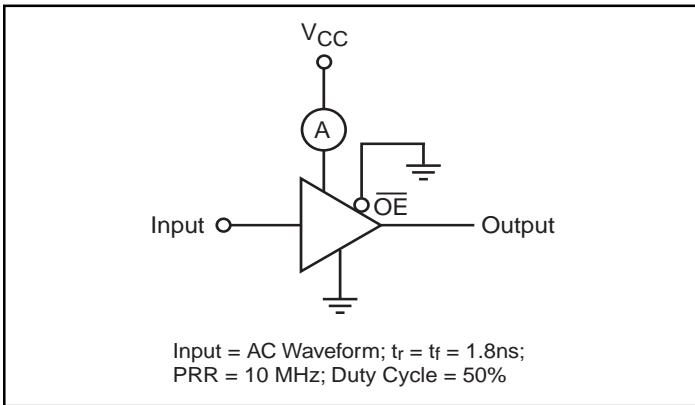

Figure 2. I_{CCD} Test Circuit
3. C_{PD} is defined as the value of the internal equivalent capacitance which is derived from dynamic operating current consumption (I_{CCD}) at no output loading and operating at 50% duty cycle (see Figure 2). C_{PD} is related to I_{CCD} dynamic operating current by the expression: I_{CCD} = (C_{PD})(V_{CC})(f_{IN}) + (I_{CC} static).